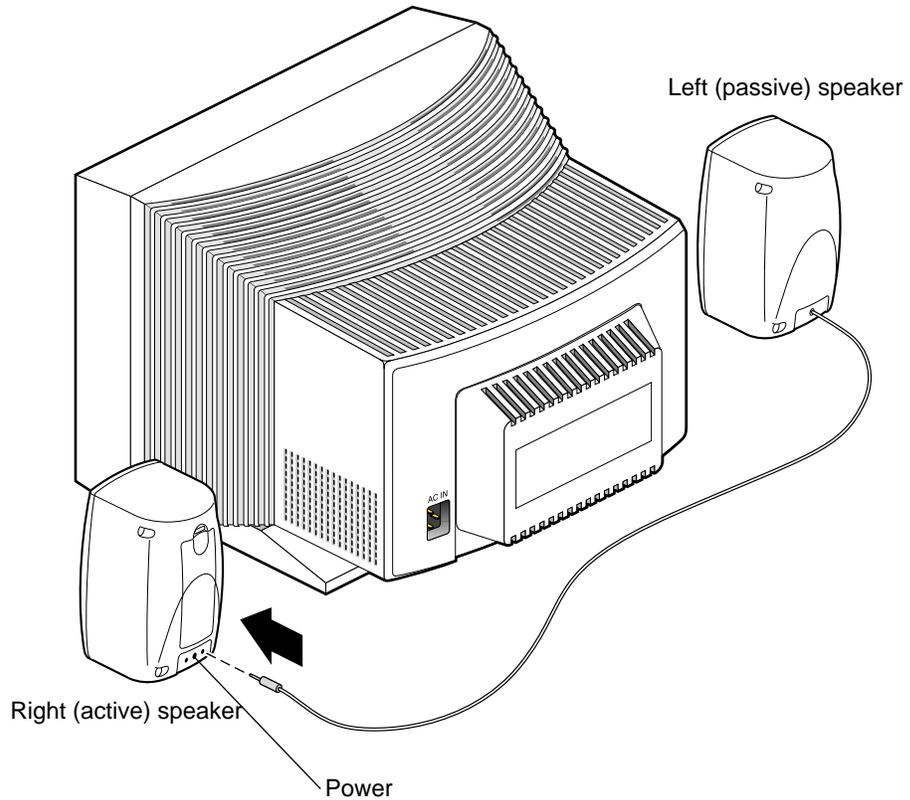

Figure 1-7 Attaching the Speaker-to-Speaker Cable
3. Place the speakers on either side of the monitor, as shown in Figure 1-7.